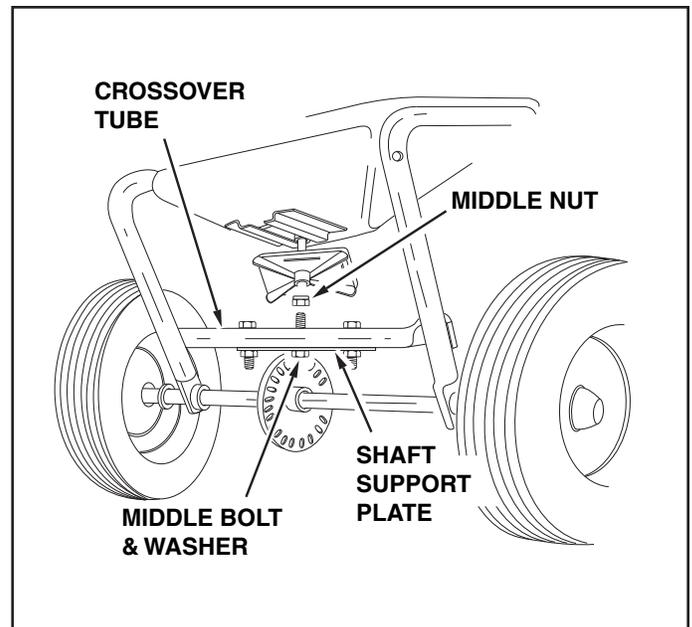

FIGURE 4
7. Remove the middle 1/4" hex bolt, flat washer and hex lock nut from the crossover tube. See figure 4.
8. Place the long handle tube onto the crossover tube on the **side opposite** from the shaft support plate. Fasten with the bolt, flat washer and nut removed in the previous step. See figures 4 and 5. **Do not tighten at this time.**